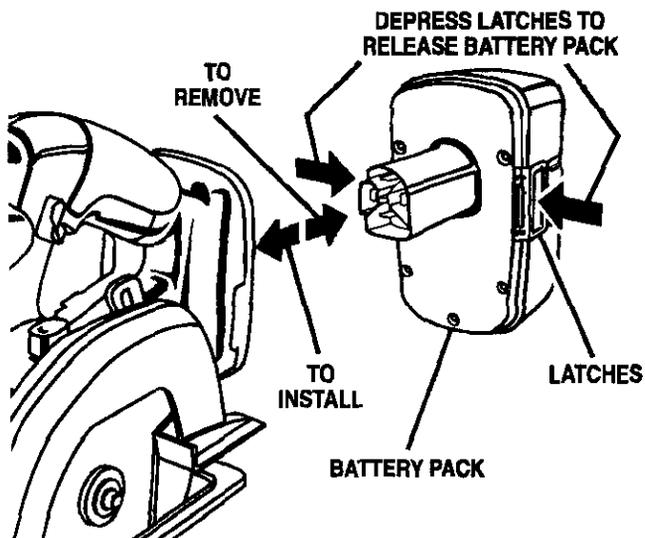

Fig. 3
See Figure 3.
- Locate latches on side of battery pack and depress to release battery pack from your saw. See Figure 3.